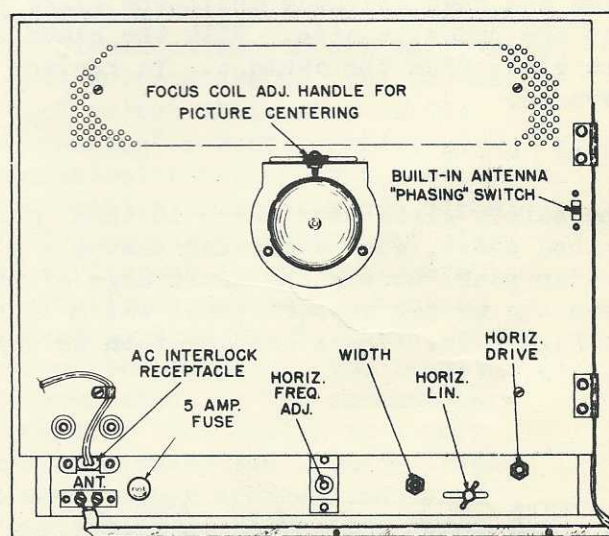

Fig. 3 - Rear Controls.
1. Remove V-216, 6AL5, from its socket and adjust the Horizontal Frequency (Fig. 3) until the picture is synchronized horizontally. When properly adjusted the picture will move slowly back and forth horizontally with one vertical blanking bar.